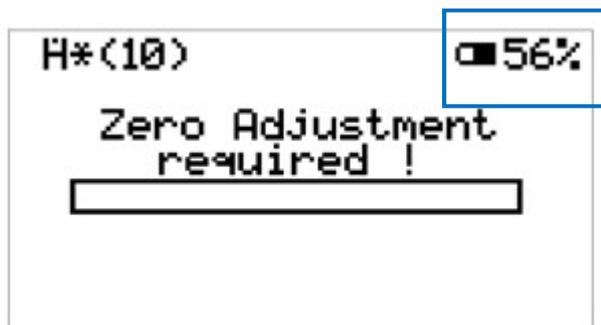

Fig. 19) Display: battery status in percentage
- The battery symbol in the LCD display (see Fig. 19) shows the battery status in percentage. Under 5%, the battery symbol is flashing and the control unit honks regularly.
¹ The percentage status of batteries (see Fig. 19) is optimized for alkaline batteries. If the NiMH / NiCd cells are used, the battery indicator will display for about 35% less.